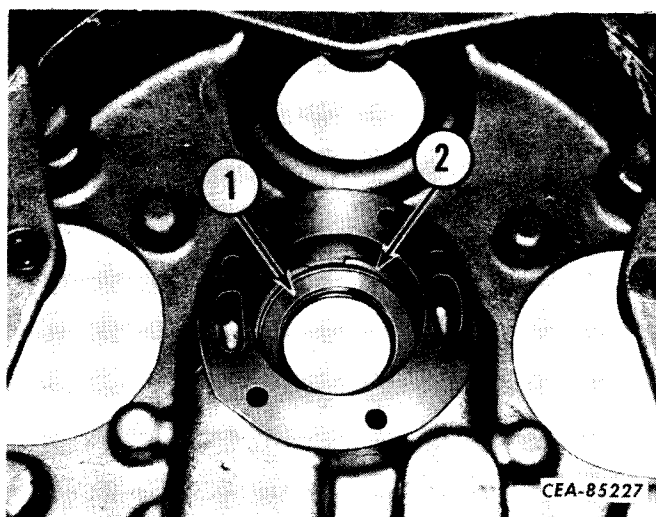

Figure 3-26
Remove the snap ring (2, Fig. 3-26) from the groove in the housing. Press the output yoke oil seal (1) from the housing.
Coat the OD of a new output yoke oil seal with "Mar-Seal" or equivalent sealant. Press the seal (1, Fig. 3-26) into the converter housing bore. This is a double lip seal. The large lip with spring tensioner must face converter housing interior (refer to "SEAL INSTALLATION DETAILS"). Use output shaft oil seal tool shown in "SPECIAL TOOLS" to install seal. Lubricate seal lips with clean grease.